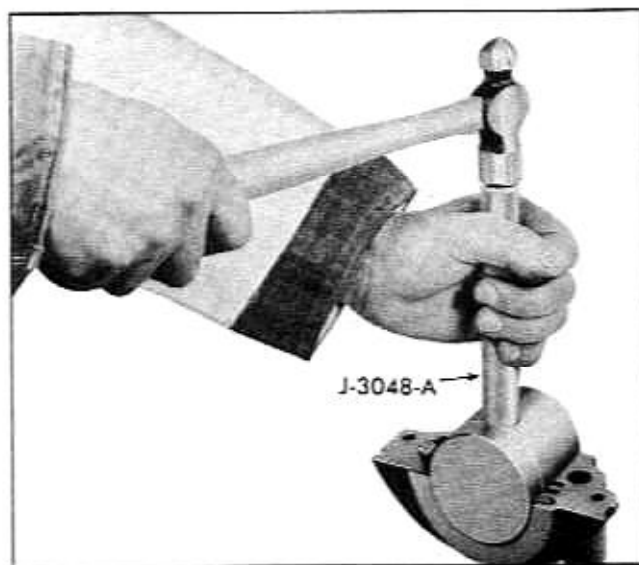

Fig. 6-33 Compressing Upper Seal in Bearing Cap
a. First install seal in cap with one end flush with cap and compress seal using hammer and Seal Compressor J-3048-A (Fig. 6-33).